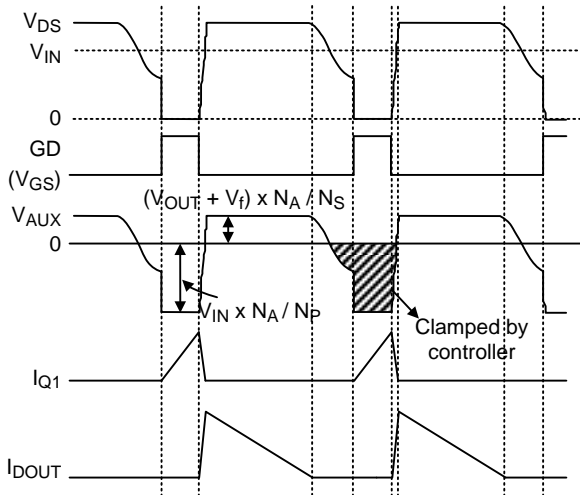

Figure 3. Key Waveforms of a Flyback Converter
RT7311B needs no shunt regulator and opto-coupler at the secondary side to achieve the output current regulation. Figure 3 shows several key waveforms of a conventional flyback converter in Quasi-Resonant (QR) mode, in which V_{AUX} is the voltage on the auxiliary winding of the transformer.